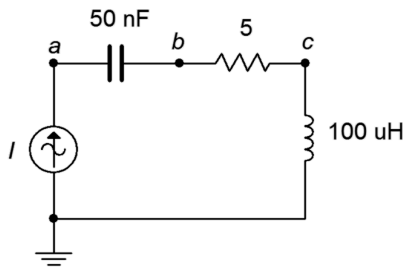

Figure 8.4
18. For the circuit shown in Figure 8.4, determine the resonant frequency, system Q and bandwidth. If the source is 100 mA, determine the resistor and capacitor voltages at resonance.